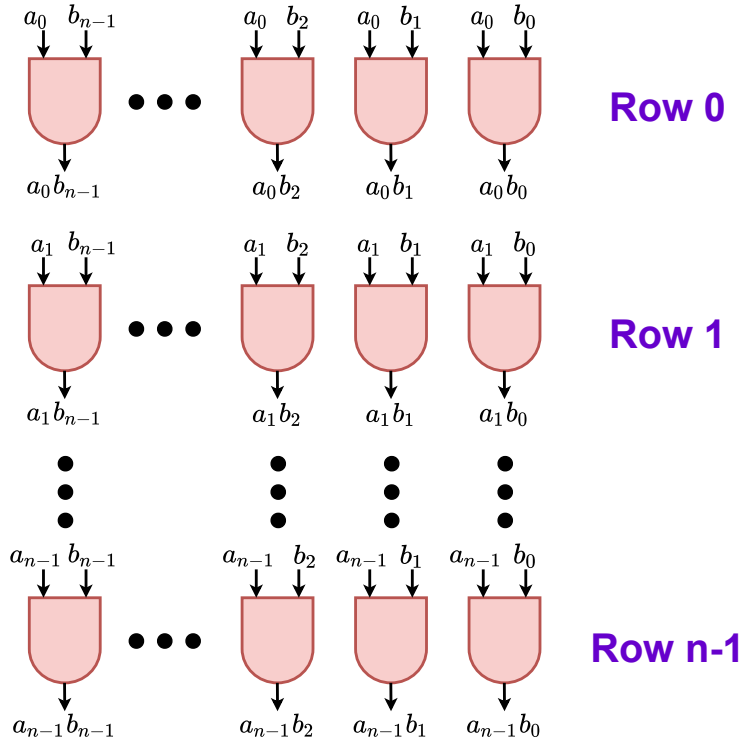

Figure 2: Bit-by-bit product needed for the multiplier
- In order to perform multiplication, the product of every bit combination of the operands is required. The product of 1 bit by 1 bit is simply ANDing the two bits. Create a 2 dimensional $n \times n$ bit signal `ab` which stores the product of every bit combination of `a` and `b`. Use Figure 2 for reference. `ab(i)(j)` in VHDL will correspond to $a_i b_j$ in the figure.